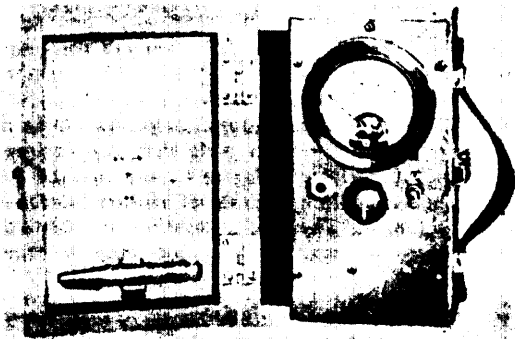

Figure 1-2. Test Indicator BE-67
c. Test Indicator BE-67-() (see figures 1-2, 1-2A, and 1-2B), used with the test oscillator, consists of a milliammeter, potentiometer, and two batteries. It is used as an output meter for tuning marker beacon